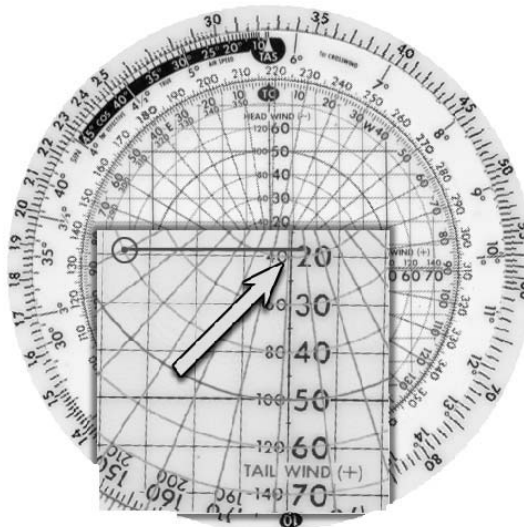

Figure 4.5-16 Preflight Wind Calculation 5
6. Determine the HW/TW component in the same manner as step 5 (draw a horizontal line) and add or subtract this value to the TAS as appropriate to calculate the GS (Figure 4.5-16).